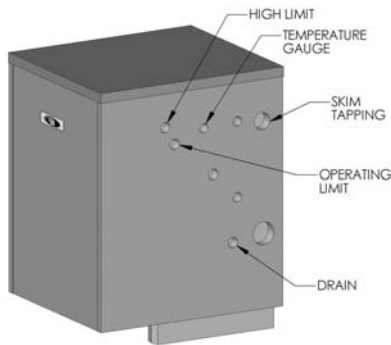

Figure 6.7: Water Boiler Tapping Locations
Install the 3/4" drain valve provided into the drain tapping on the right hand side of the boiler. Refer to Figure 6.7 for tapping location.
Install the pressure/temperature gauge (theraltimeater) supplied with the boiler into the 1/2" tapping located on the right side of the boiler. Refer to Figure 6.7 for tapping location.
- a. Install the operating limit control provided in the 3/4" tapping located on the right side of the boiler. Refer to Figure 6.7 for tapping location.
- b. (64-09 through 64-12) Install a high limit control in the 3/4" tapping located above the operating limit control. Refer to Figure 6.7 for location.